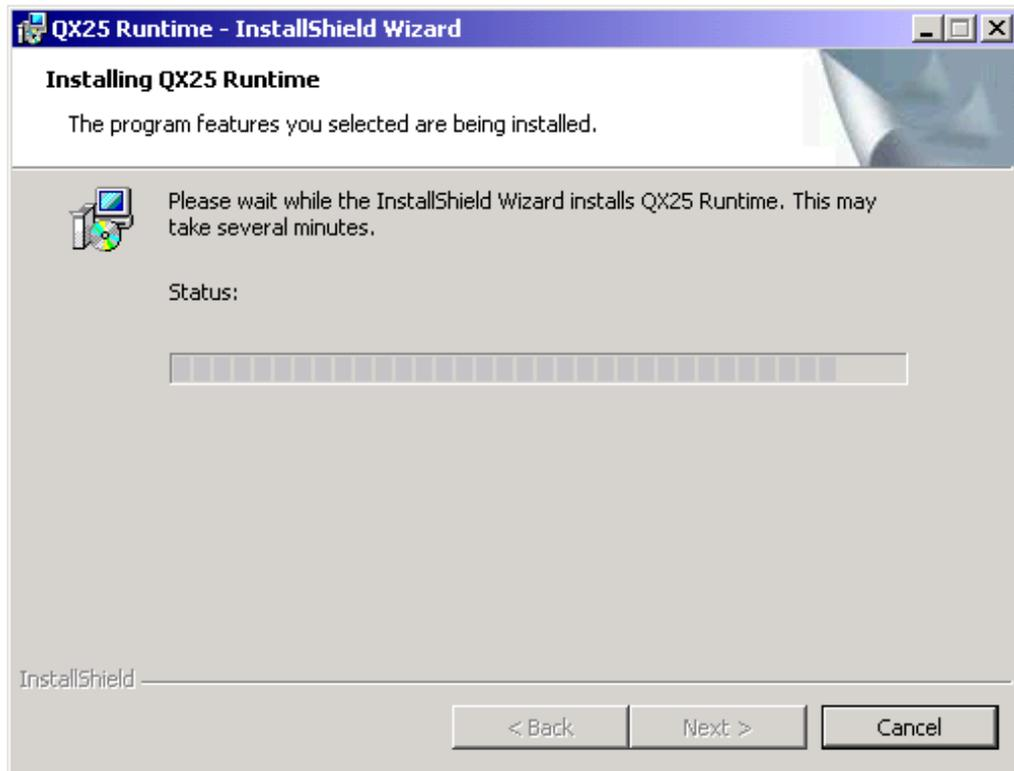

FIGURE 166. Installing QX25 Runtime window
21. The window in Figure 166 appears as the install is in progress.